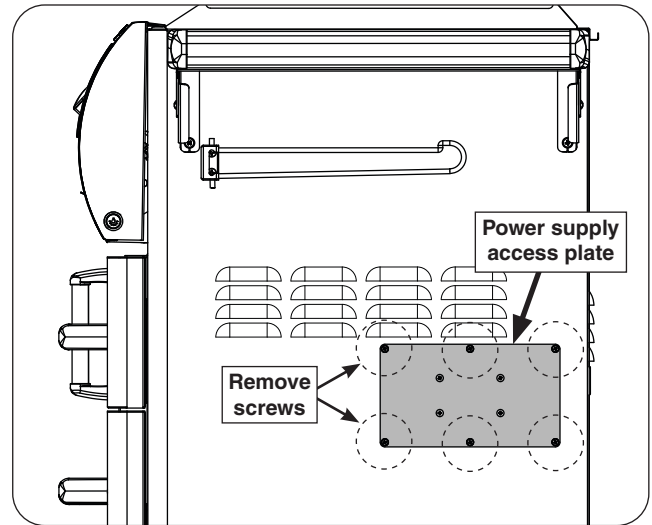

Fig. 29-1 Remove power supply plate
3. Locate the power supply access plate on the right wall of the griddle cabinet. Remove the 6 screws (top 3 and bottom 3) to access the power supply. See Fig. 29-1.